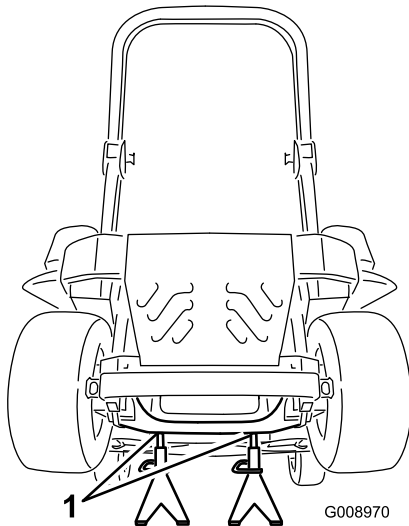

Figure 100
3. Raise the machine and support it with jack stands (Figure 100).
9. Remove the jack stands and lower the machine (Figure 100).